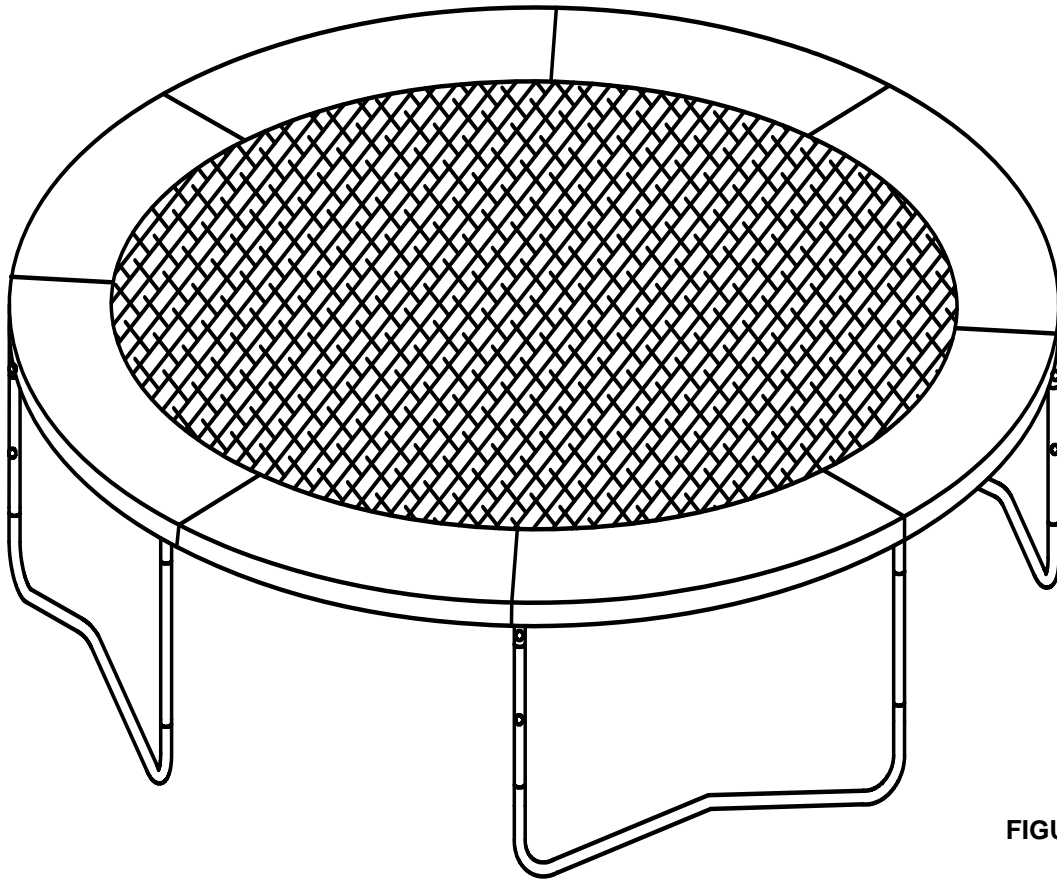

FIGURE 10
F. Then, attach the remaining 48 springs by using the same theory of counting equal holes as shown in FIGURE 10.